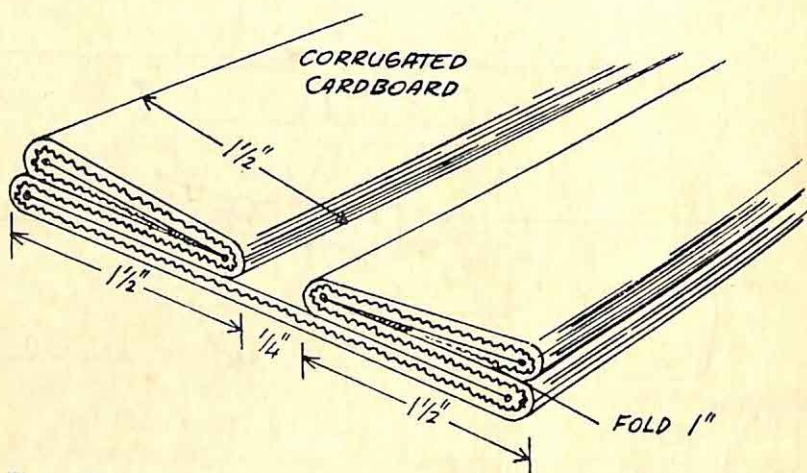

Figure 183
- (b) *From corrugated cardboard.* Figure 183 should be self-explanatory.